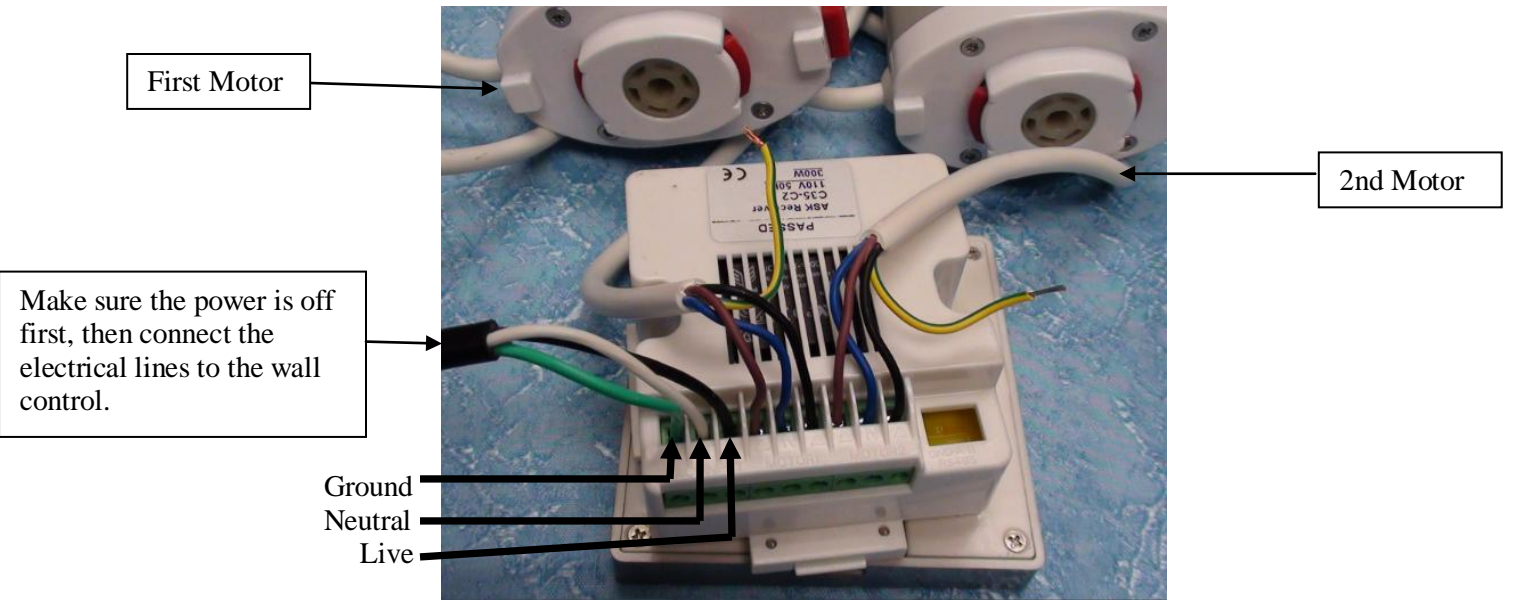

Fig 1 - 2 motors/wall switch wiring diagram
- Fig 1 below shows two motors have been wired together to the C35-2 Wall Switch.